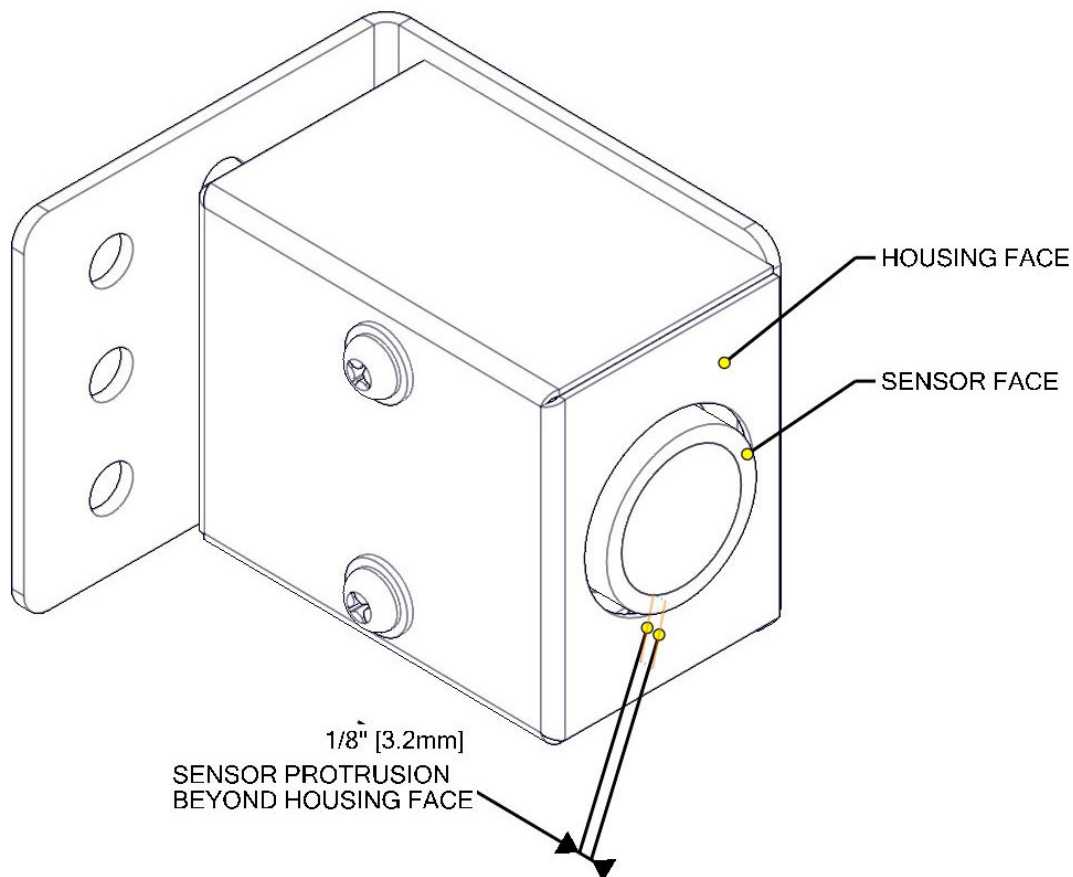
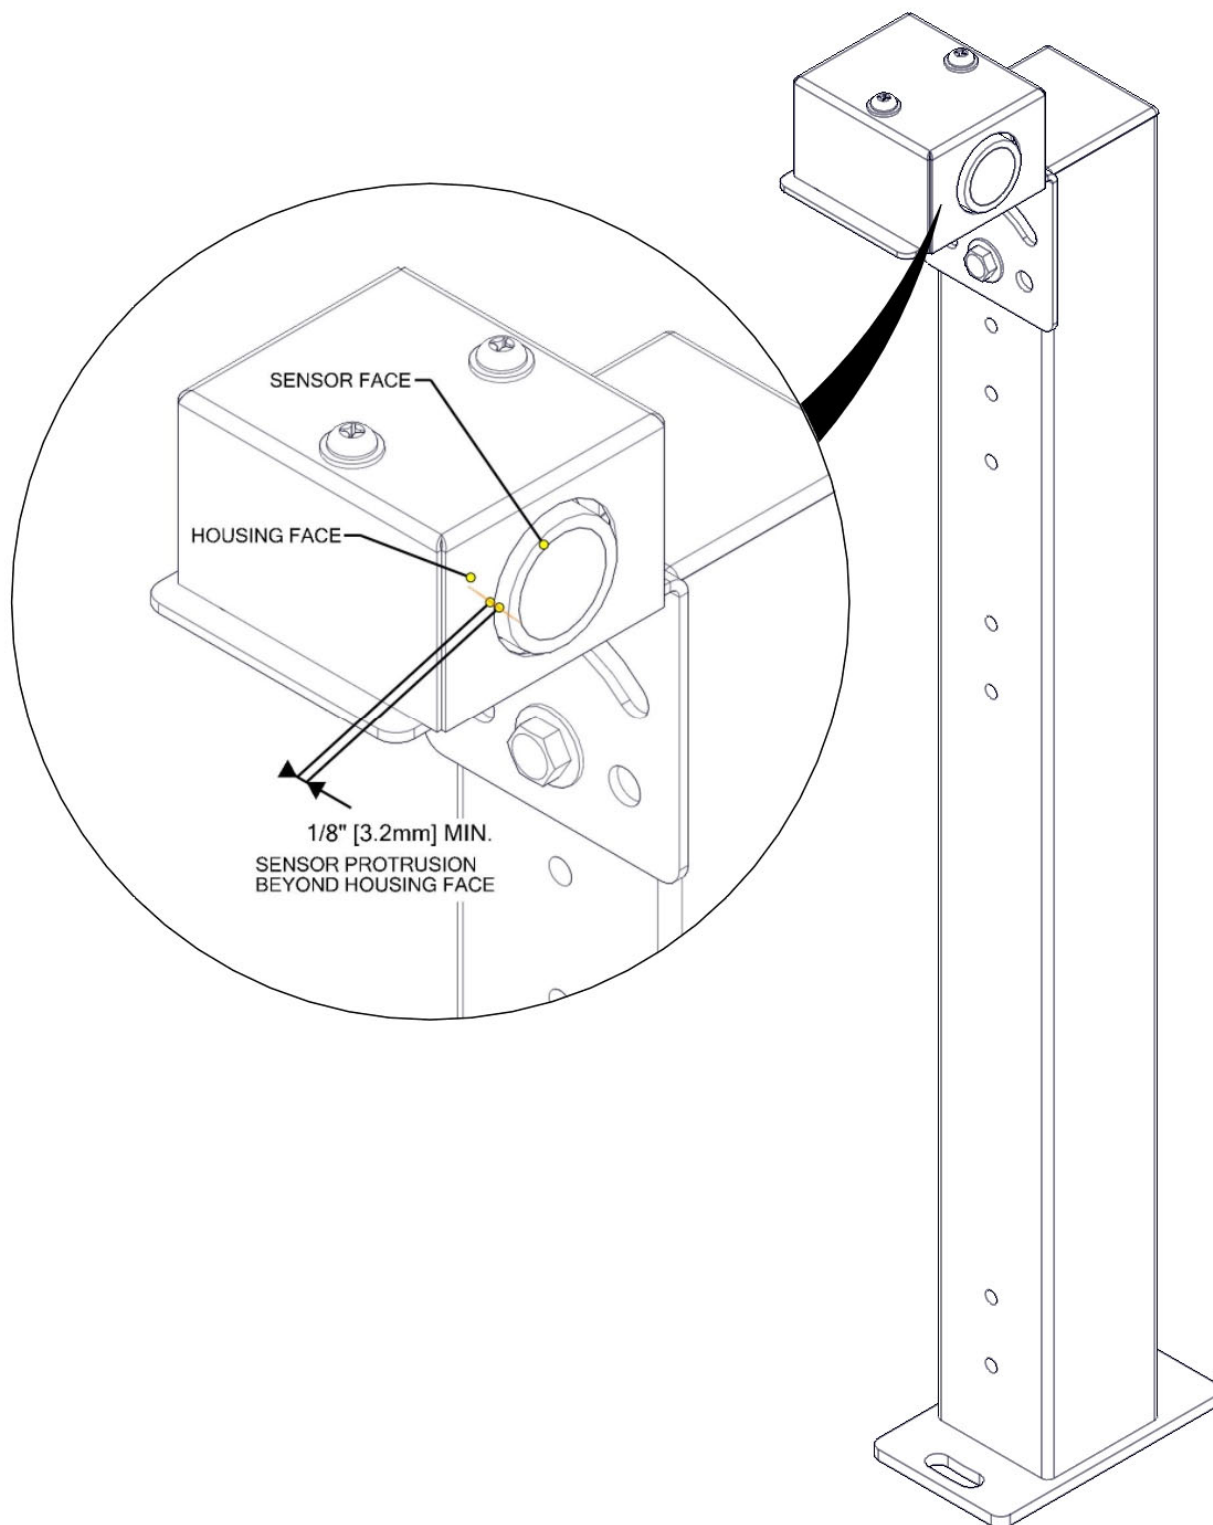

Figure 141 – Wall Mounted Ultrasonic Sensor Assembly
Figure 142 – Stand Mounted Ultrasonic Sensor Assembly
Side measurement ultrasonic sensors have two styles of mounting: Wall mounted, Figure 141, and Stand mounted Figure 142.
- The wall mounted sensor part numbers are 11410033 and 11410034. The 11410034 units includes the heat option, Figure 141.
- The stand mounted sensor part numbers are 11410035 and 11410036. The 11410036 units include the heat option, Figure 142.